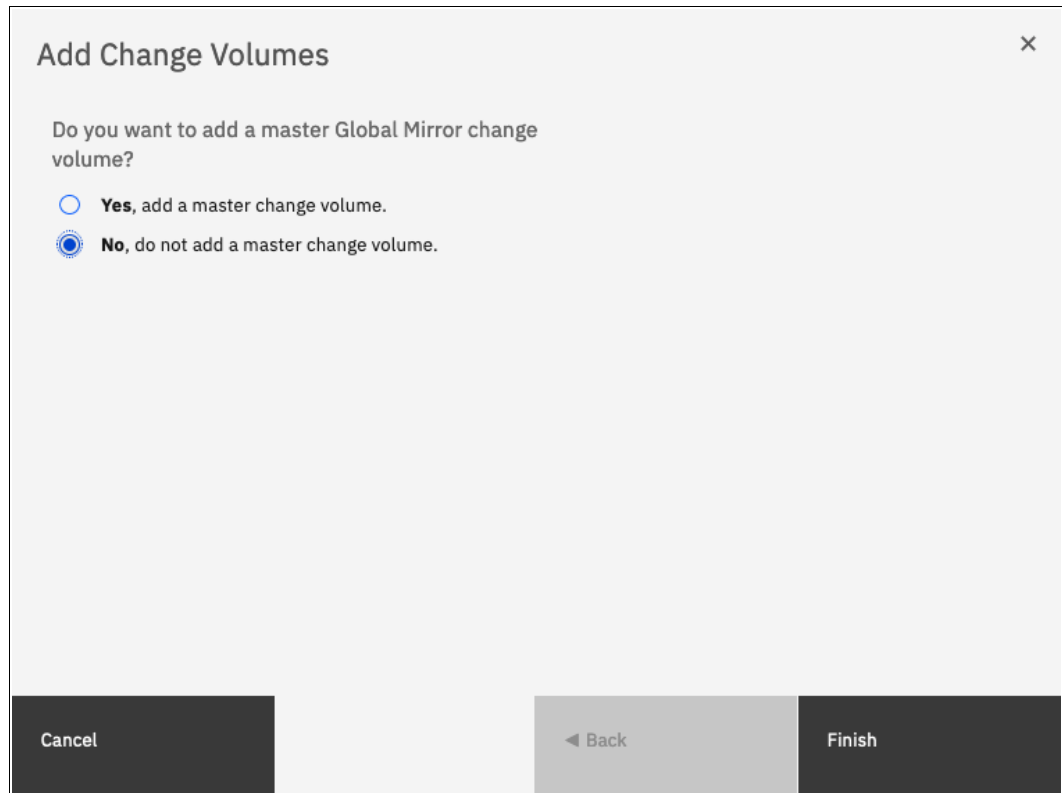

Figure 10-119 Add Change Volumes window
8. In the next window, you can add change volumes if needed, as shown in Figure 10-119. Click **Finish**.